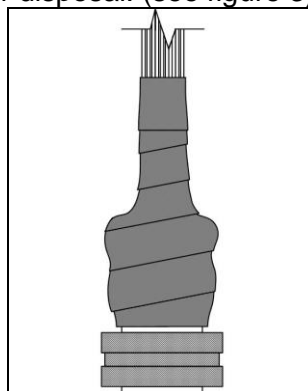

Figure 3
- 3.4.6** Cut off any excess StretchSeal™ Tape. Follow instructions provided with Self-Leveling Green® Injectable Sealant for disposal. (see figure 3)